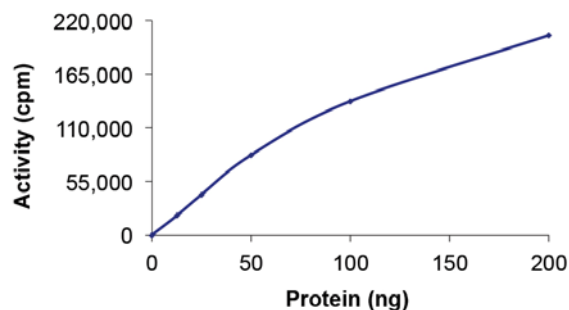

Figure 2: The specific activity of JNK1 was determined to be 94 nmol/min/mg as per activity assay protocol (on reverse).
- **Active Kinase** - Active JNK1 (0.1 µg/µL) diluted with Kinase Dilution Buffer III and assayed as outlined in Figure 2.